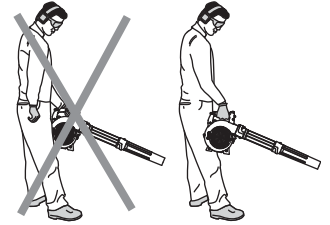

Fig. 15
**WARNING:** After starting the unit, always stand on the left side of the unit to operate it as shown in figure 15 to keep from blocking the air intake.
- Hold the blower with the right hand.** Do not stand on the right side of the blower when operating the unit (Fig. 15). If you do, you will be blocking the air intake and this will affect the unit's performance. Instead, be sure to stand on the left side of the unit to maximize the unit's efficiency (Fig. 15).